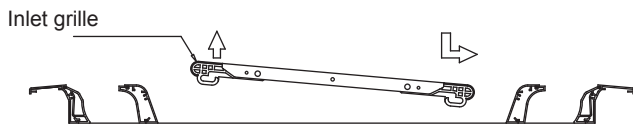

Fig.5-11
- 3) Open the inlet grille (about 45°), and remove the other side, refers to Fig.5-11